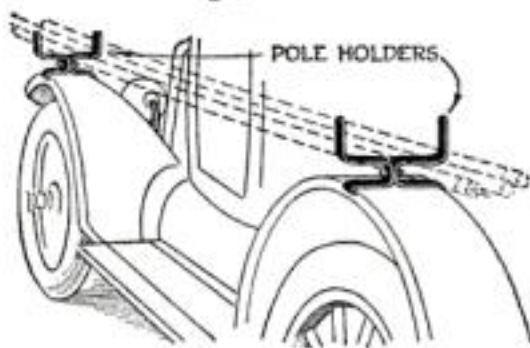

Fig. 3. These special fender pole holders will permit you to carry long poles on your car without scratching the paint
**A**BOUT the most awkward object to carry in an auto is a long pole. It won't fit inside the body, of course, and when strapped on the side scrapes off the paint. A solution of this problem is to make a pair of brackets as shown in Fig. 3 and clamp them to the fenders. A single bolt will hold each bracket in place, and if felt is glued to the part of the bracket that comes in contact with the fender, there will be no scratching. The brackets can be made of steel of any dimensions, depending on the strength required.